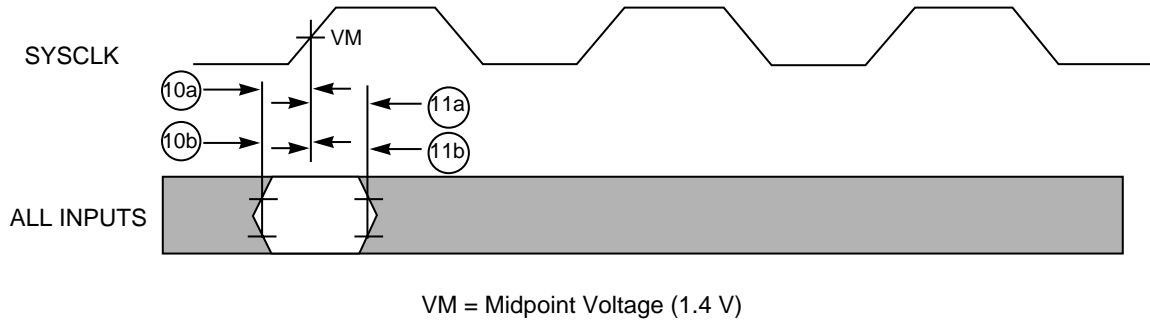
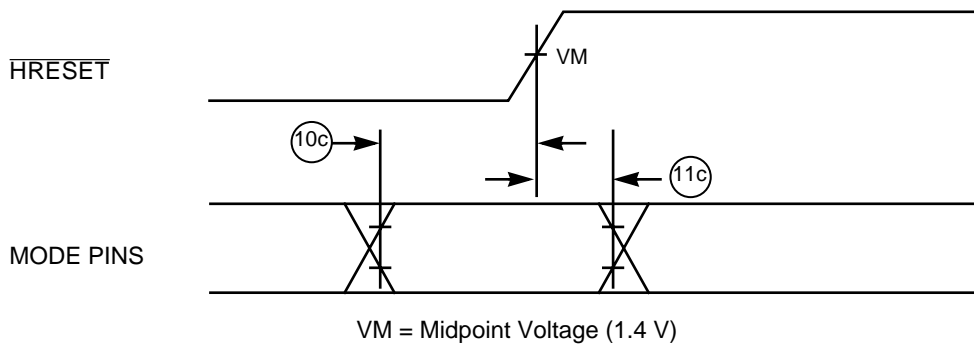

Figure 2. Input Timing Diagram
Figure 3. Mode Select Input Timing Diagram
Table 8 provides the input AC timing specifications for the PID7t-603e as defined in Figure 2 and Figure 3.
4. The setup and hold time is with respect to the rising edge of $\overline{\text{HRESET}}$ (see Figure 3).
Figure 2 provides the input timing diagram for the PID7t-603e.
Figure 3 provides the mode select input timing diagram for the PID7t-603e.